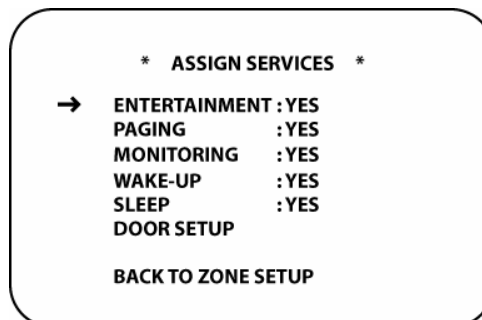

Figure 101 Assign Services Screen
1. From ZONE SETUP PAGE 1, with the cursor next to ASSIGN SERVICES press the **Set Button**. The ASSIGN SERVICES screen will appear. (**Figure 101**)